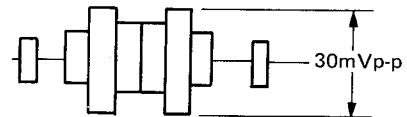

Figure 45.
- 5) Then adjust R530 (REC. C. LEV.) so that the chroma recording current can reach the level shown in Fig. 45.